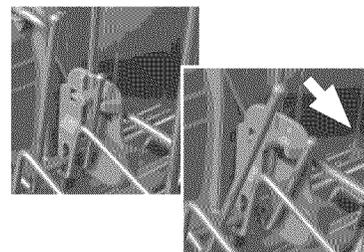

Figure 4
2. Grasp the top of the rack above the Automatic Height-Adjustable Top Rack handles and pull it upward as shown in Figure 4 until the Automatic Height-Adjustable Top Rack handles lock the rack into position (you do not need to press the Automatic Height-Adjustable Top Rack handles in order raise the rack).